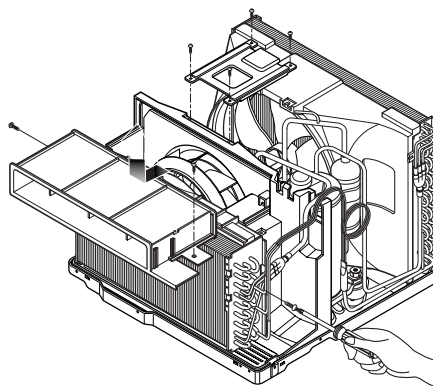

Figure 5
7. Remove the air guide upper. (See Figure 5)